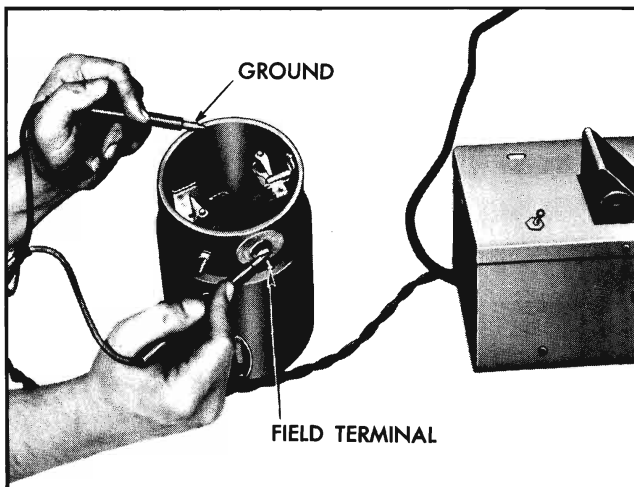

Fig. 11-24 Testing Field Coils for Ground on 30 Amp Generator
e. Using a 110-volt test lamp, place one lead on ground (touch to generator frame) and other lead on field terminal on generator frame (Figures 11-24 and 11-25). Be sure free end of field wire is not touching ground and field terminal insulation is not broken. On the 35 amp generator, be sure free end of armature terminal brush lead is not touching ground and field terminal insulation is not broken. If lamp lights, the field coils are grounded. If ground in field